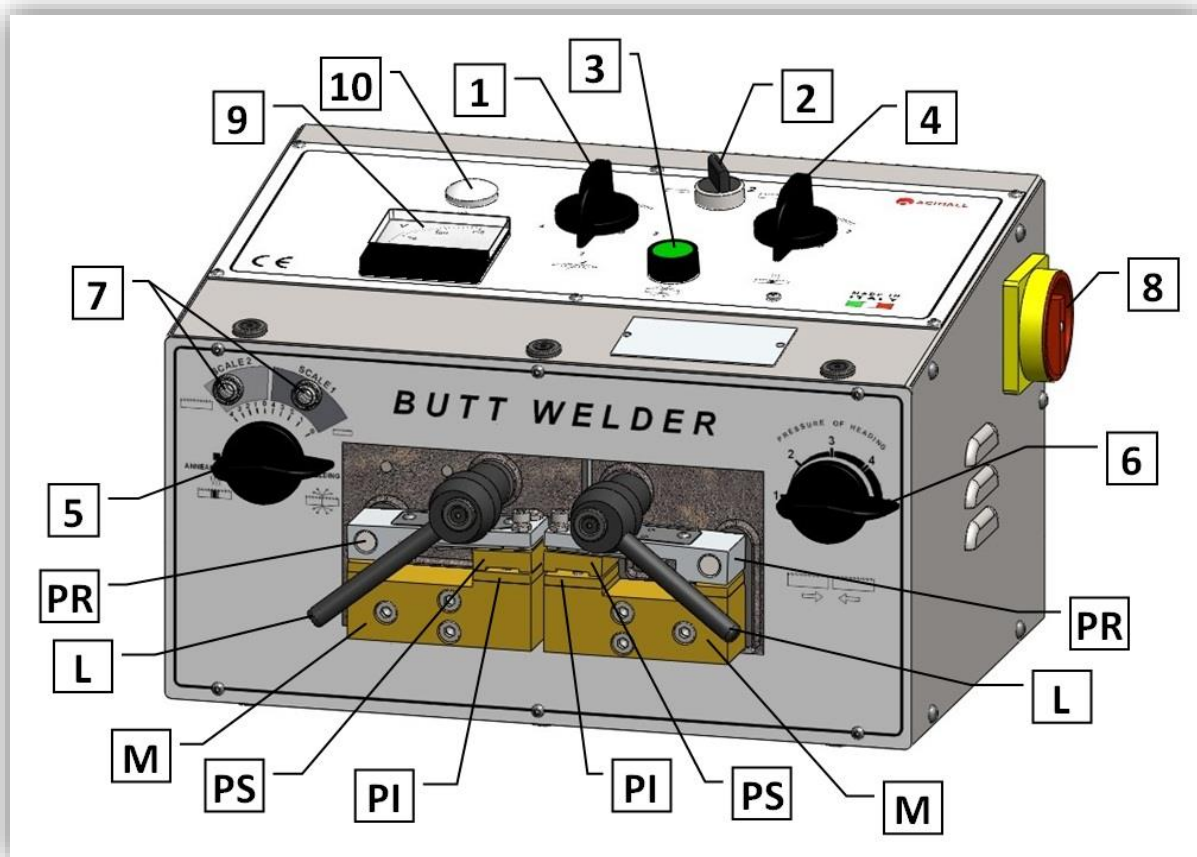
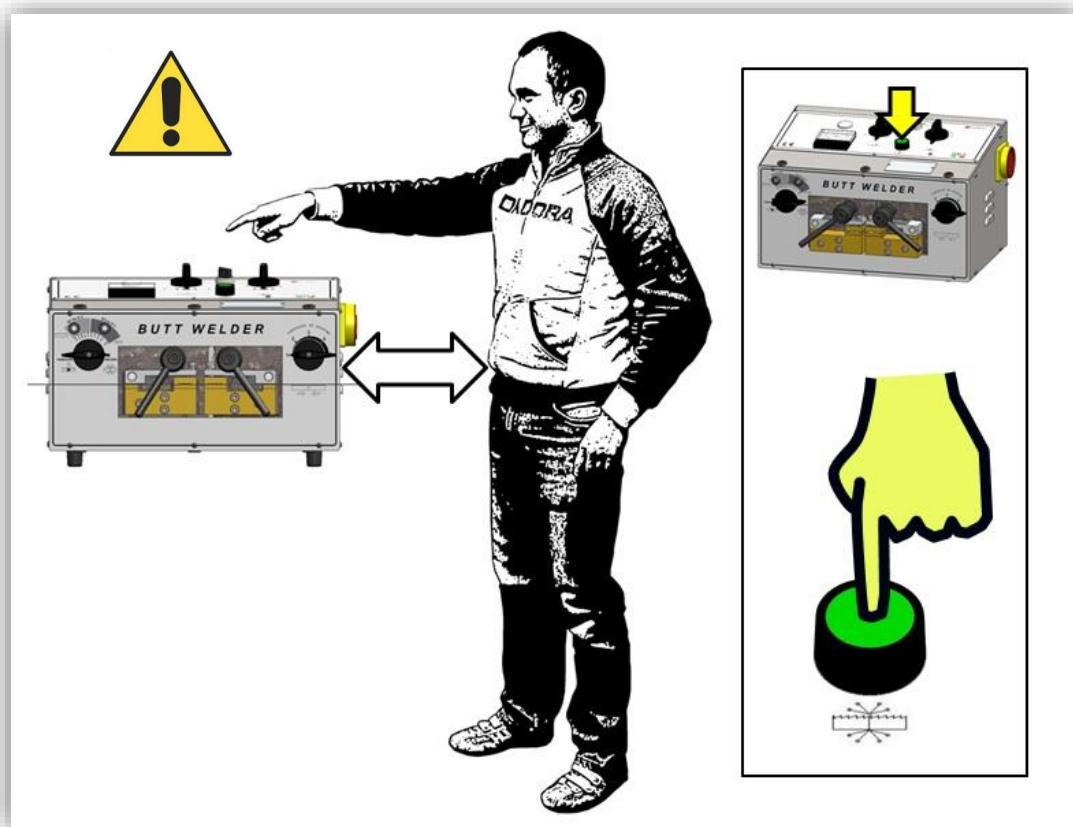

Figure 1
Figure 15
To switch the welding machine on turn the main power switch clockwise (Switch 8, Figure 1).
Make sure the machine is on checking if the power on/off indicator light on the control panel (indicator light **10**, Figure 1) is on.
- i) **Select the welding scale using the scale selectors switch: 1 or 2 (selector switch 2, Figure 1)**
Check your choice by observing which of the lights over the heading paths is on (indicator lights 7, Figure 1). Select scale 1 for thin and narrow blades; select scale 2 for bigger blades.
- ii) **Set the heading pressure from within the range 1 to 5 (rotary knob 6, Figure 1)**
iii) **Adjust the heading path** (rotary knob 5, Figure 1)
iv) **Set the welding current from within the range 1 to 4** (rotary knob 1 Figure 1)
Open the clamps by lifting levers **L** (Figure 1). Then insert the two band ends under pressers **PR** (Figure 1) with the teeth turned towards the machine, as shown in the picture below.
Align the bands longitudinally against the back plate and match the two band ends midway. The band ends shall match perfectly. Block them using clamping levers **L** (Figure 1).
Turn the heading path rotary knob (rotary knob 5, Figure 1) back to the 'WELDING' position.
Press the welding push button (push button **3**, Figure 1) bewareing of the sparks and **keep it pressed** until the machine stops automatically (see Figure 15 below).